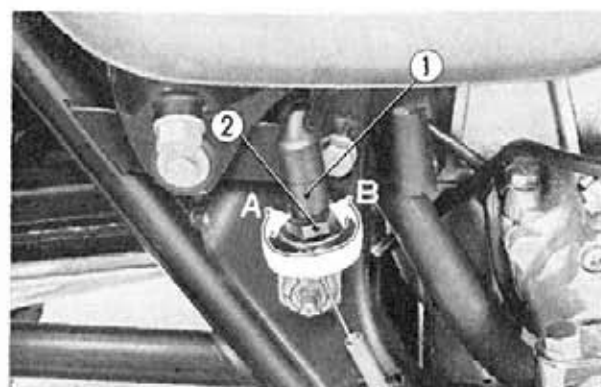

Fig. 19-22 ① Stop light switch
light switch is late in switching on the stop light, screw in ① the switch lock nut and if the stop light comes on too early, screw out ② the switch lock nut. (Fig. 19-22)
- (3) Check operation of turn signal lights and repair when it is necessary.
- (4) Check horn, speedometer and tachometer for function and replace them when it is necessary